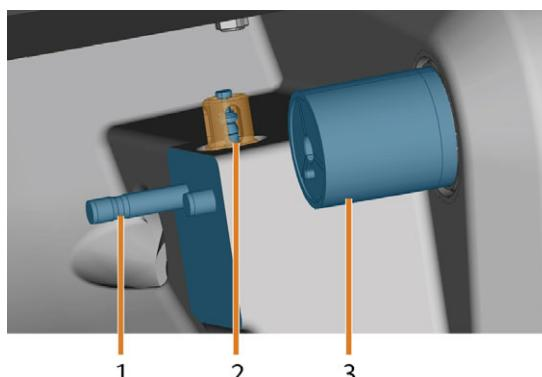

FIG. 67 TOOL MAGAZINE HOLDER, MEASURING KEY, BLOCK HOLDER (IN BLUE)
4. Clean the measuring key with the wet brush (Fig. 67 see below):